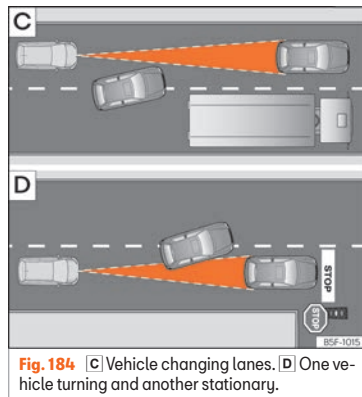

Fig. 184 [C] Vehicle changing lanes. [D] One vehicle turning and another stationary.
- Vehicles that move into your lane, a short distance from your vehicle »» Fig. 184 [C].
The ACC does not react to stationary vehicles. If, for example, a vehicle detected by the ACC turns or moves over and there is a stationary vehicle in front of it, the ACC will not react to the second vehicle »» Fig. 184 [D].